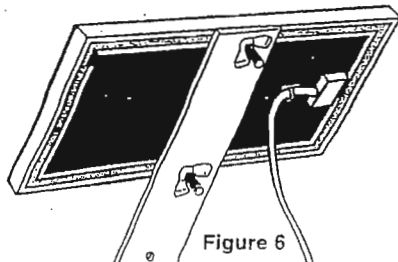

Figure 6
3. Place the solar panel onto the solar panel mounting bracket while inserting the bolts through the appropriate holes. Securely tighten using two 6-mm wing nuts. See Figure 6.